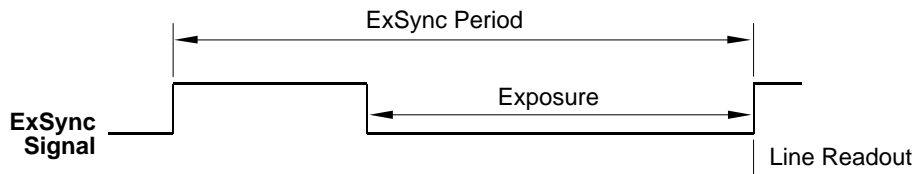

Fig. 52: ExSync Level Controlled Mode
- In **ExSync level controlled** mode, line acquisition begins on the rising edge of the ExSync signal. The exposure time is determined by the time between the falling edge of ExSync and the next rising edge. The pixels are exposed and charge is accumulated only when ExSync is low. The pixel values are read out of the sensor on the rising edge of the ExSync signal (see Figure 52).